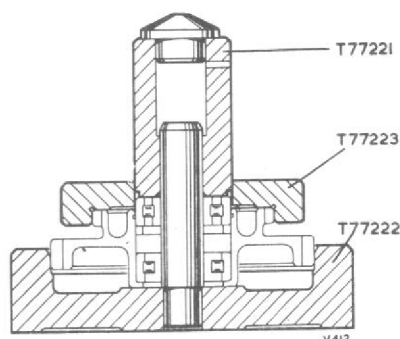
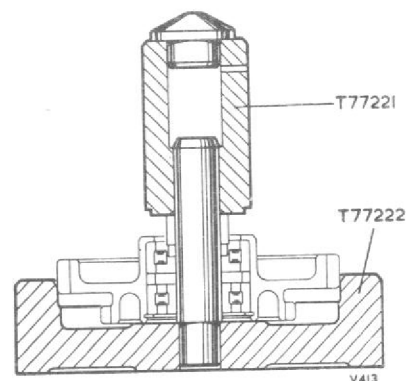

Fig. 13. Pressing the outer spacer and upper roller bearing into the idler gear
Fig. 14. Pressing the inner spacer and inner race of the lower roller bearing into the small end of the gear
- (4) Assemble the outer spacer, the roller bearing and the inner race to the spigot on the press block; using adapter T77221, press them into position (fig. 13); remove the adapter ring.
- (5) Remove the assembly from the press and secure the roller bearing in position with the retaining ring.
- (6) Position the gear, small gear downwards, on the press block.
- (7) Assemble the inner spacer and the inner race of the inner roller bearing to the opposite end of the gear (fig. 14).
- (8) Using the adapter, press them into position.
- (9) Set the idler gear shaft (39) on press block T77217.
- (10) Assemble guide adapter T77219 to the bore of the shaft.
- (11) Set the idler gear assembly, with the small gear uppermost, to the guide adapter; using adapter T77221, press the gear into position.
- (12) Remove the assembly from the press and using Seeger pliers, fit circlip (Part No. AGS2031-7) to the groove in the shaft.